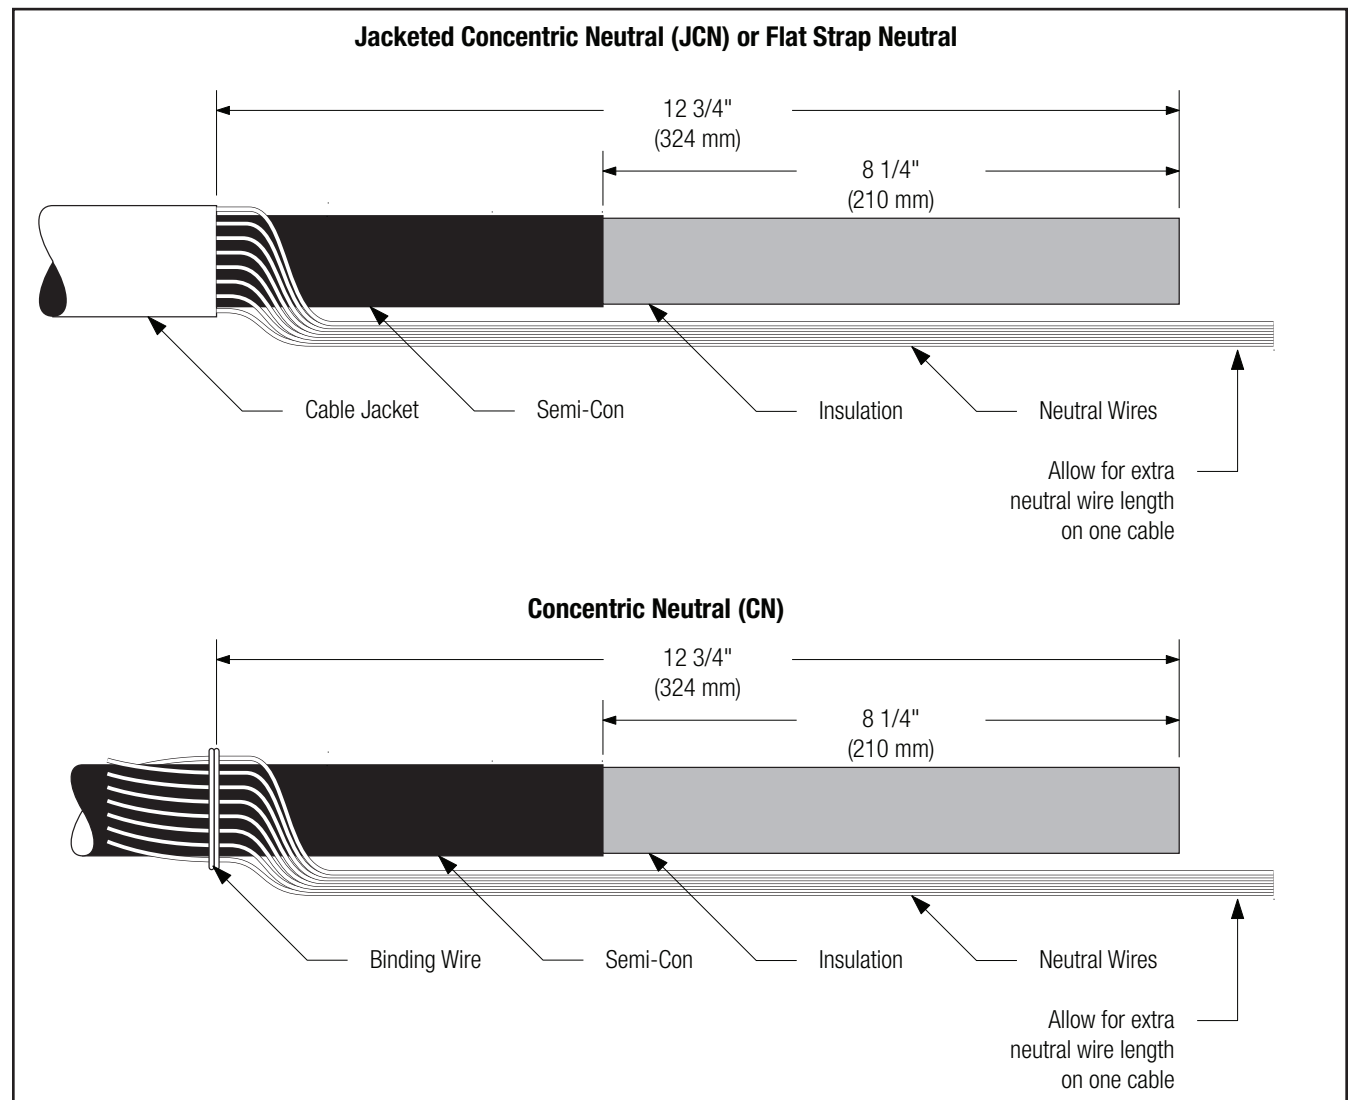

Figure 1
- 2.2 Prepare cables according to standard procedures. Refer to template provided or illustration below for proper dimensions. **Additional distance is required on one cable to provide extra neutral wire length for connecting the neutrals.** (Figure 1).